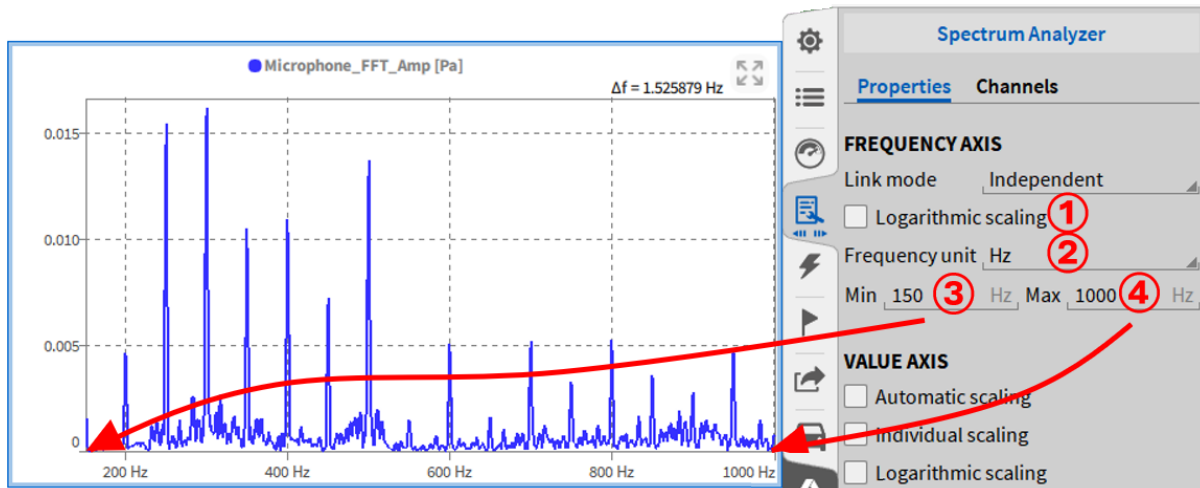

Fig. 8.42: Frequency axis settings
The unit of the X-axis is Hertz [Hz] per default (see ② in Fig. 8.42). The unit can be changed to Cycles Per Minute [CPM] which is defined as [Hz] \* 60. The axis' minimum can be freely defined (see ③ and ④ in Fig. 8.42). The scaling can optionally be set from linear to logarithmic scaling (see ① in Fig. 8.42).